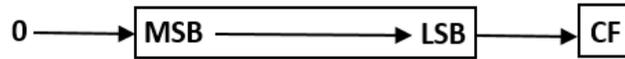

Fig. 2.15
The SHR instruction is an abbreviation for 'Shift Right'. This instruction simply shifts all bits in the register to the right side one by one. The MSB is replaced by a ZERO and LSB is stored in the Carry Flag (CF) as shown in fig. 2.15.